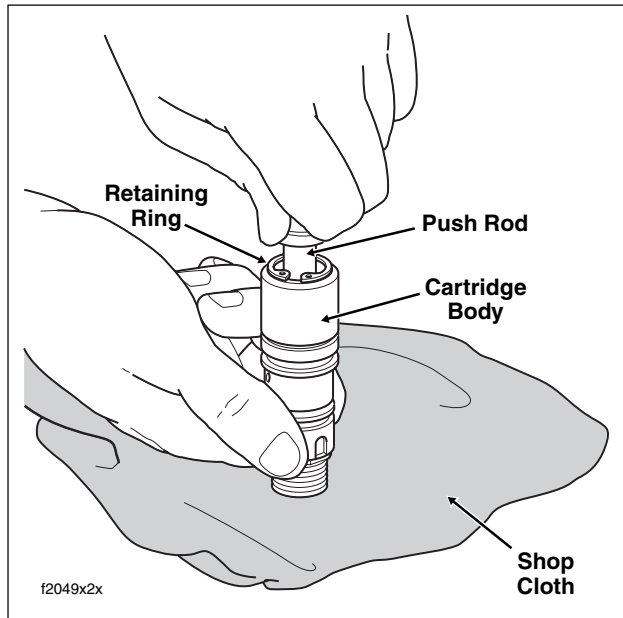

Figure 2-51. Compress Spring and Install Retaining Ring
4. Stand cartridge body upright on banjo sealing surface. Lay down a clean shop cloth to protect the sealing surface from damage. See Figure 2-51.